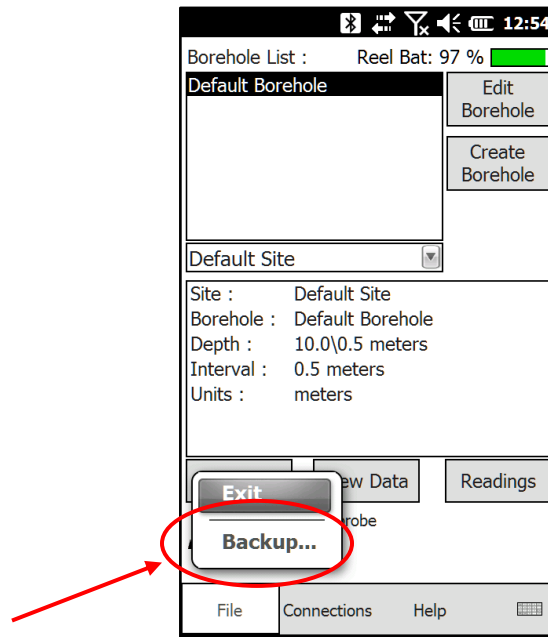

Figure 34 – File Backup
1. From the main menu of the Digital Inclinometer Software, under the *File* menu select *Backup...* (Figure 34).